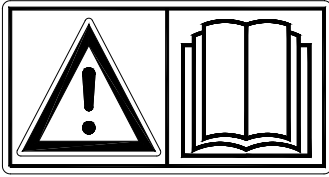

Figure 1
**Read and understand** (Figure 1) the manual before working with the Multi-Seeder.